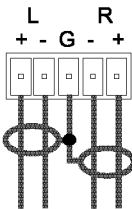
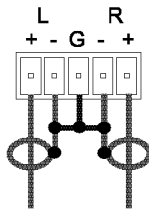
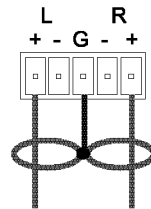

Figure 4: Connecting the Balanced Stereo Audio Input/Output
Figure 5: Connecting the Unbalanced Stereo Audio Input
Figure 6: Connecting an Unbalanced Stereo Audio Output
- Balanced stereo audio with 16 inputs and 16 outputs on detachable terminal block connectors, as shown in Figure 4 (to configure for unbalanced5 stereo audio, see Figure 5 and Figure 6)
- A balanced stereo audio input/output connection, see Figure 4
- An unbalanced stereo audio input connection, see Figure 5
- An unbalanced stereo audio output connection, see Figure 6